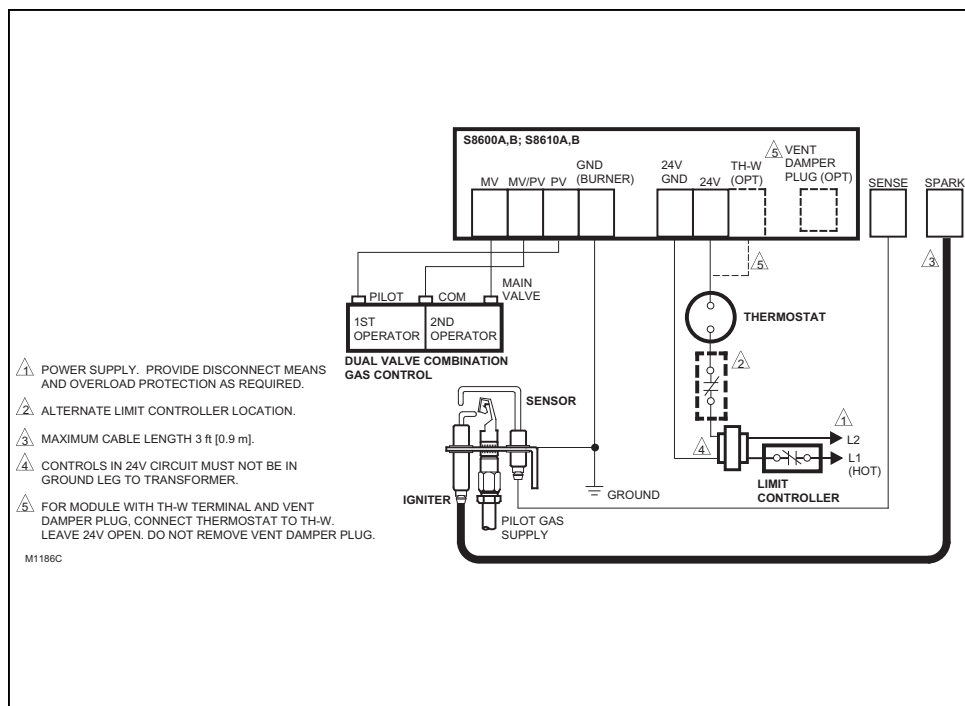

Fig. 3—S8600A,B; S8610A,B connections in a heating system with an atmospheric burner.
• Figs. 3 and 4 show S8600A,B; S8610A,B with
in Figs. 3 and 4.